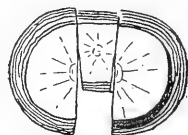

Fig. 40. Cross section of stock and scion.
h. The scion and its treatment. Fig 40.
2. Point out the scion and stock in Fig. 40.